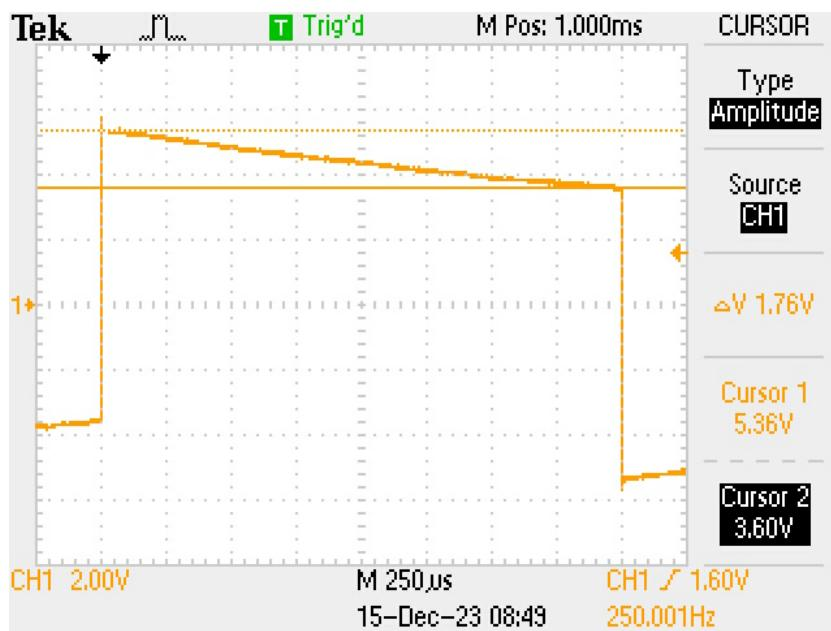

Figure 1.14: Measuring Vmax & Vmin on a Tilt waveform
2. Expand the waveform across the display of the oscilloscope using the horizontal control, see Fig 1.14.
3. Use the cursors to measure Vmax and Vmin of the pulse, see Fig 1.14. Cursor 1 (Vmax) is 5.56V and Cursor 2 (Vmin) is 3.6V.